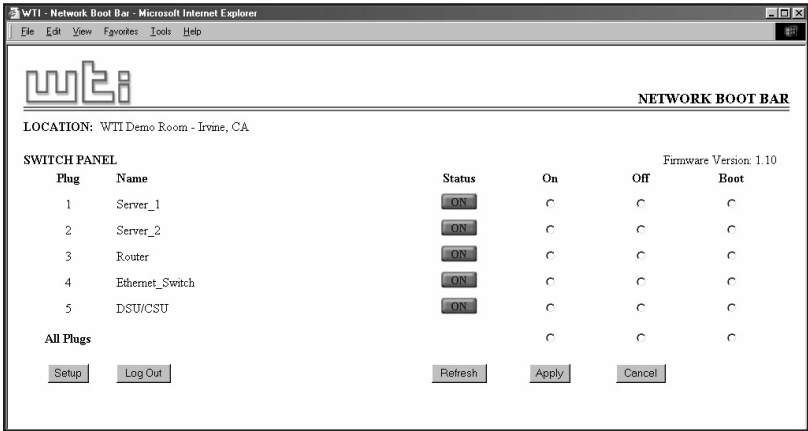

Figure 6.1: Plug Status Menu - Web Browser Interface
When you log on to the NBB command mode, using the Web Browser Interface, the first screen that is displayed after login is the Plug Status Screen (or "Switch Panel".) The Plug Status Screen (Figure 6.1) lists the current On/Off status of the NBB's Switched Outlets and provides a series of "radio buttons" which are used to control On/Off/Boot switching of the outlets.
2. When the Plug Status Screen (Figure 6.1) appears, note that the screen includes a status field and On/Off/Boot controls for each of the NBB's five Switched AC Outlets.